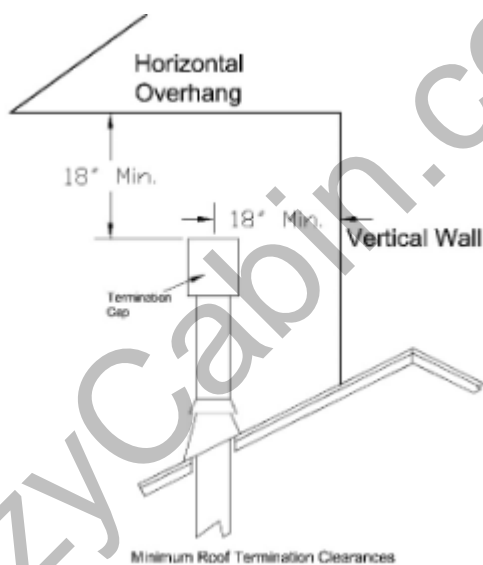

Figure 8 - Termination Cap clearances
- ☛ All termination caps must be no less than 18" (457mm) horizontally from any roof or vertical surface. See Figure 8.
- ☛ All horizontal terminations must also comply with the clearance specifications to adjacent structures outlined in Figures 8 & 11.